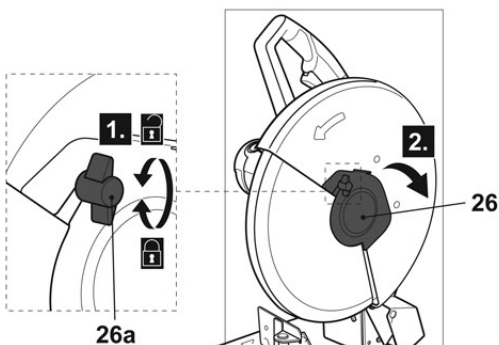

Fig. 11
> Turn the wing screw (26a) anticlockwise to unlock it but do not remove the wing screw. Then, rotate the cover (26) to expose the locking hardware (Fig. 11).